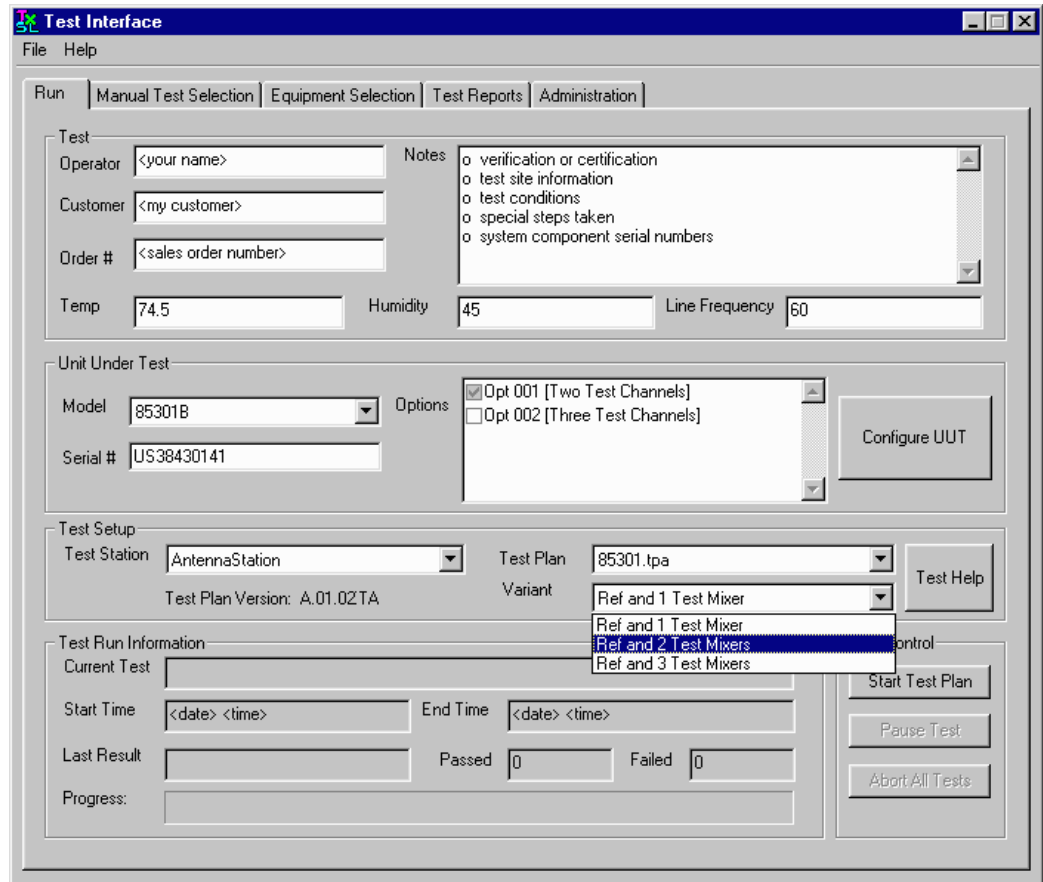

Figure 24 Test Plan Variants
13. Select the desired variation of the test plan from the **Variant** drop-down menu. See Figure 24 on page -35. Table 14 describes the test plan variations.